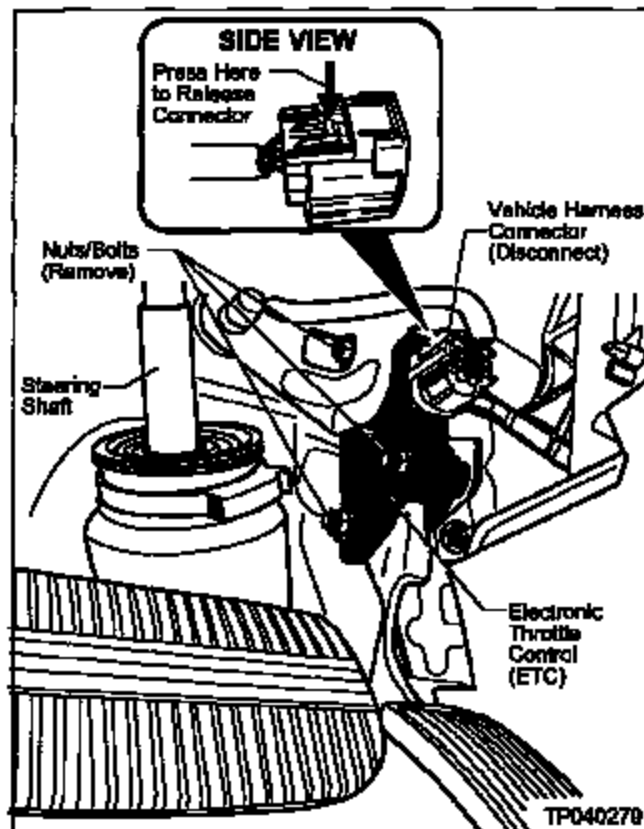

Figure F3
2. Disconnect the Vehicle Harness Connector from the Electronic Throttle Control (ETC) Assembly (see Figure F3).
- To release the connector, press the release button (on the connector). See Figure F3.
3. Remove and discard the three ETC mounting Nuts and Bolts (see Figure F3).